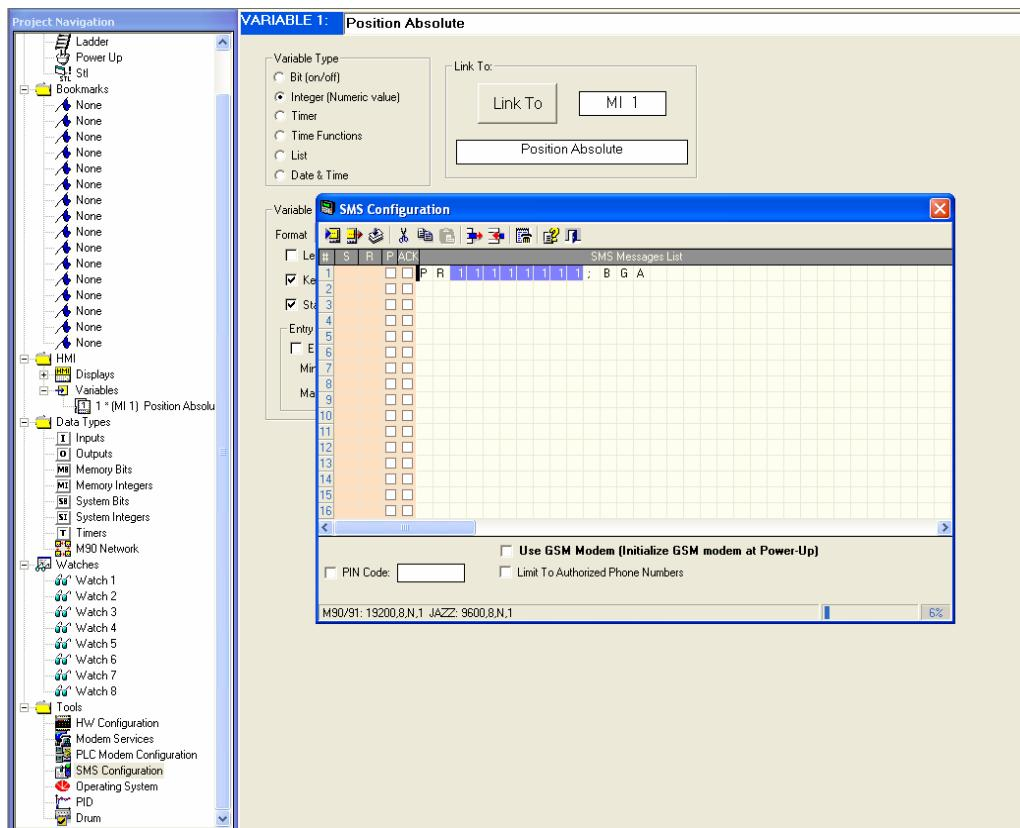

Figure 7: Screen shot of the SMS configuration window, and the built message.
4) Next, set up the SMS message which will send the ASCII string out of the serial port to the controller. This can be done by clicking ‘SMS Configuration’ in the Project Navigation tree in the ‘Tools’ folder. The following window will appear as in Figure 7.